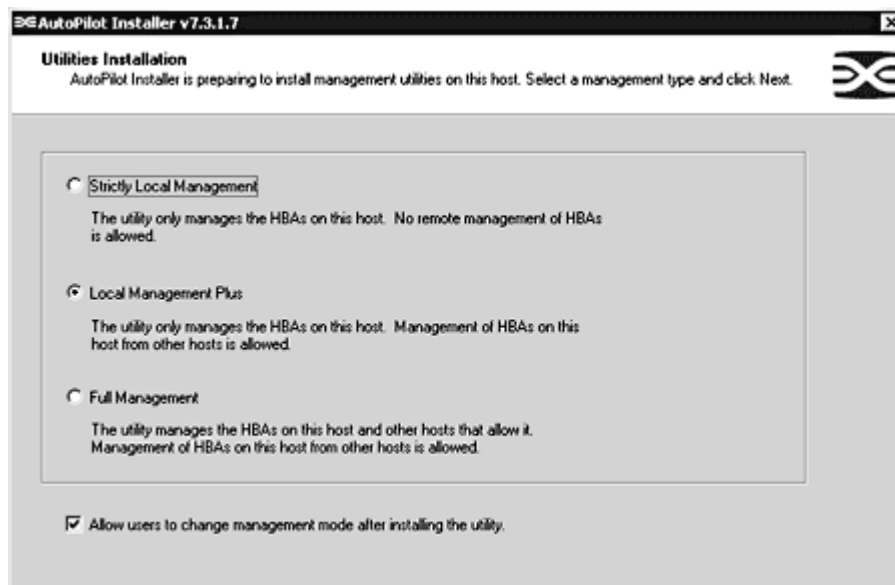

Figure 1: AutoPilot Installer Management Mode Setup
4. Select a management mode. See Figure 1 for three types of host/HBA management.